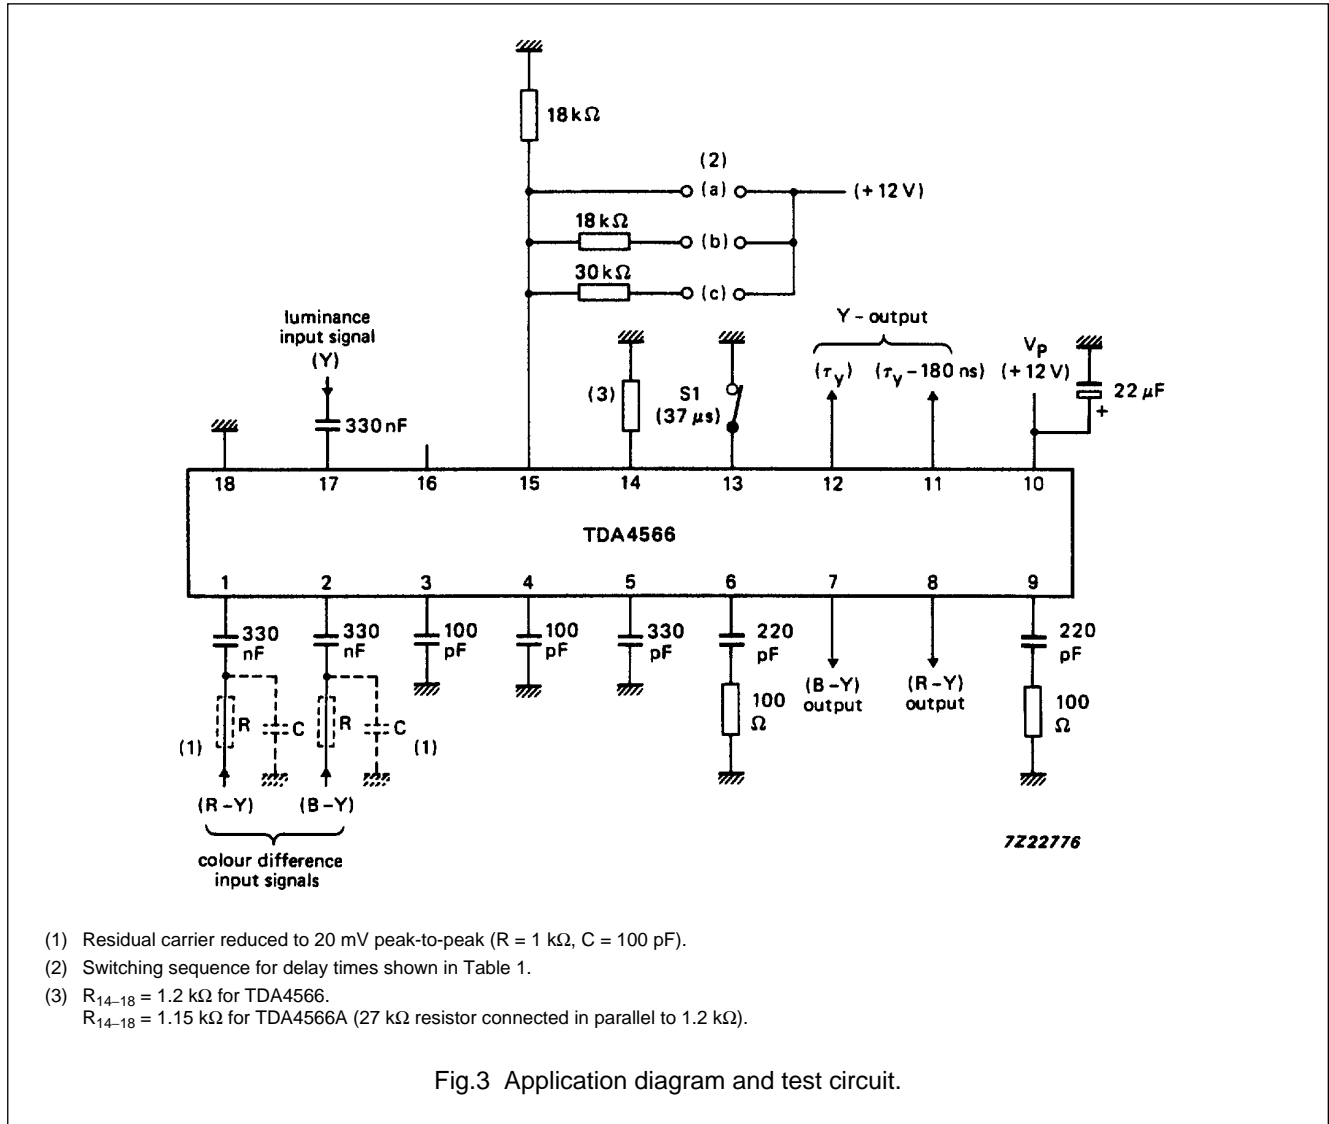

Fig.3 Application diagram and test circuit.
$V_P = V_{10-18} = 12\text{ V}$; $T_{amb} = 25\text{ °C}$; measured in application circuit Fig.3; unless otherwise specified
1. Output signal transient time measured with $C_{6-18} = C_{9-18} = 220 \text{ pF}$ without resistor (see Fig. 3).